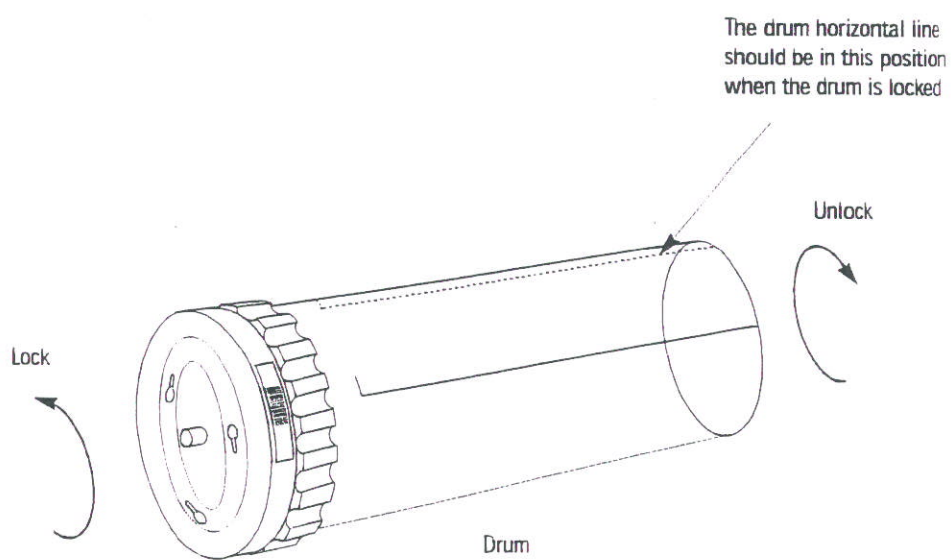

Fig. 1
- 6 • Position the drum with the horizontal line uppermost (fig. 1).